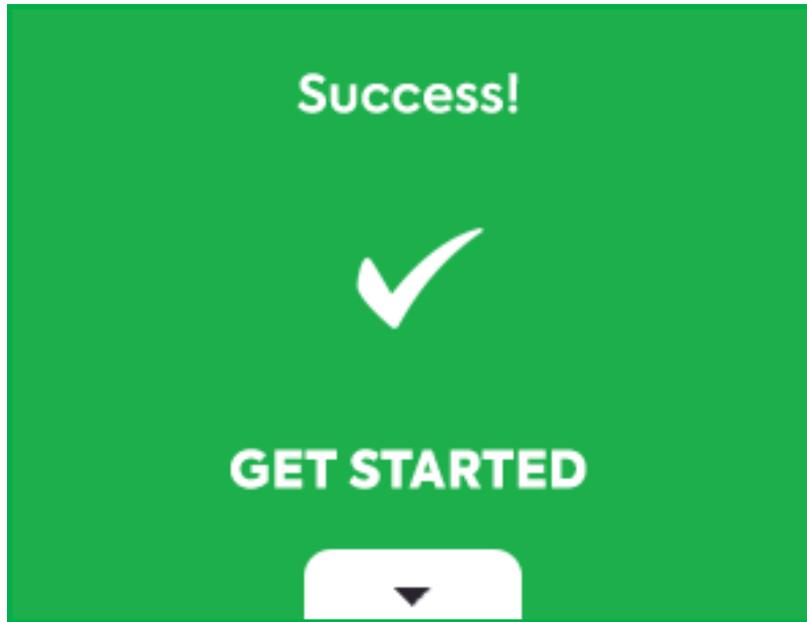

FIGURE 11
9. The console and controller are now successfully paired. (Figure 11)